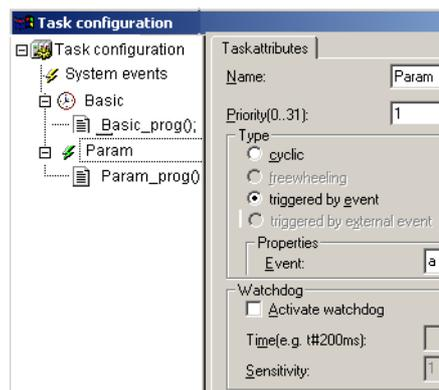

Figure 32: Creating an event controlled task
- ▶ Create a task of the "event controlled type" with the name "Param" in accordance with Figure 32.